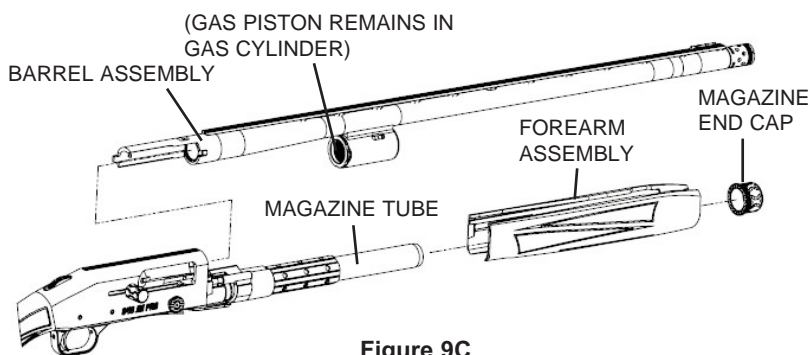

Figure 9C
If your model 940™ does not come fitted with a magazine extension and resembles the model as shown in Figure 9C, follow the procedure below for barrel removal.
1. Unscrew the magazine end cap (Figure 9C).
3. Pull the barrel forward, free of the receiver and magazine tube. Ensure the gas piston remains in the gas cylinder or the barrel will bind (Figure 9C).